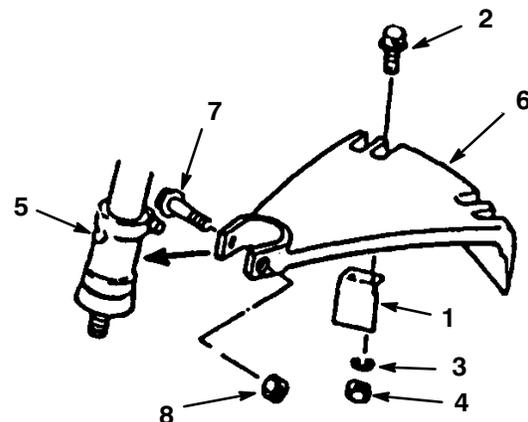

Figure 8
1. Fasten the string cutoff blade to the trimmer head shield with two M5 x 15 screws, lock washers and hex nuts as shown (Fig 8).
2. Attach the trimmer head shield to the bearing case with one M6 x 40 screw and locknut as shown (Fig 8). Tighten only as needed.